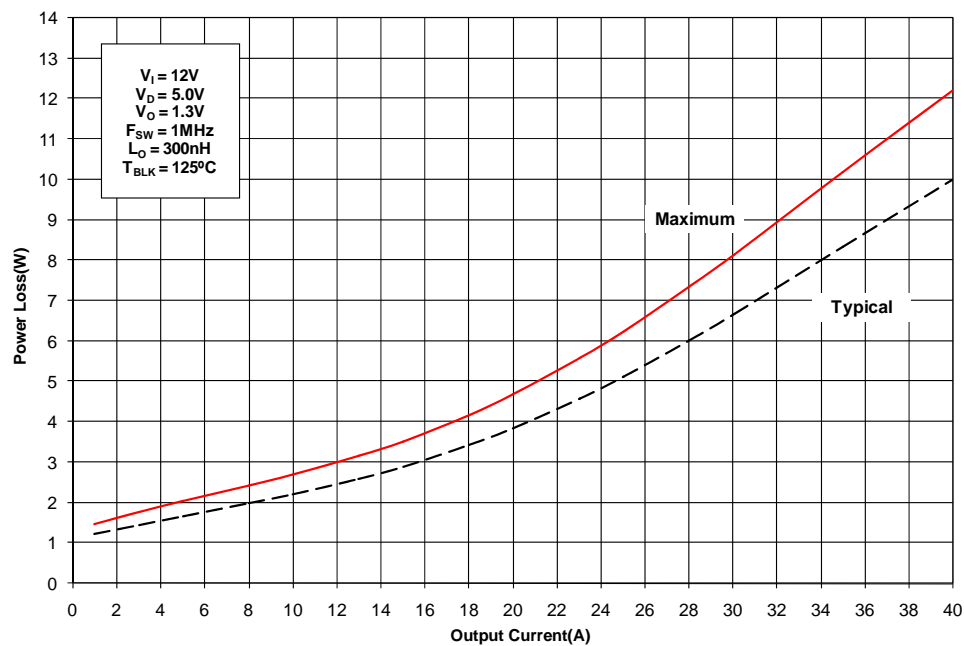

Figure 1 Power Loss versus Output Current
1. Determine the maximum current for each iP2004 and obtain the maximum power loss from Figure 1
3. The maximum power loss under the Application conditions is then the product of the power loss from Figure 1 and the normalized values.
- (Figure 1) Maximum power loss = 8.0W